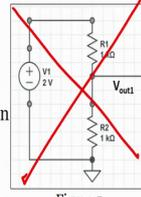
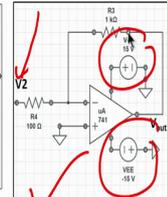

Figure 5
Figure 6
- Connect the circuit as shown in the Figure 5
- Now, connect the circuit as shown in the Figure 6
So, first experiment that we have to do is to study the effect of loading and input impedance to affect the these experiment right, to study now all of you know what is loading, all of you know how input impedance can be increased right by using what kind of amplifier right or a voltage follower. So, let us see this one, figure 5, what is this? Voltage divider. Figure 6, what is this? Inverting amplifier right.
So, connect the circuit as shown in figure 5. What we will do we will first connect the circuit as shown in figure 5, which is the voltage divider all right, then we will apply 2 volts D C at here input and we will observe the output and note down the value all right, this is first thing we will do.
Now, we will go to the second part of part 1, that is part 1 let us consider this as a, now let us consider this one which is your second part. Now connect the circuit as shown in figure 6, what is figure 6? If you see here on the screen this is figure 6 this is the circuit of a inverting amplifier, you see you are applying voltage at the inverting terminal of the operation amplifier. You have a feedback resistor, you have a input resistor right, you have minus the V C C or V E E, you have plus V C C. Here you have to measure output V out to this is the circuit.
So, we are now we are now considered anymore figure 5. We are not considering the circuit, right we are just considering figure 6, which is the circuit all right. So, right now do not see this one, just see this one we have already seen this. So, let us see figure number 6, figure number 6 what it says? Connect the circuit shown in figure 6 connected, now apply 1 volt D C input directly from the power supply at V 2, we have to apply here 1 volt. So, I will write here 1 volt exactly what is a voltage we will see 1 volt and observe and note down the output voltage V out 2 ok.